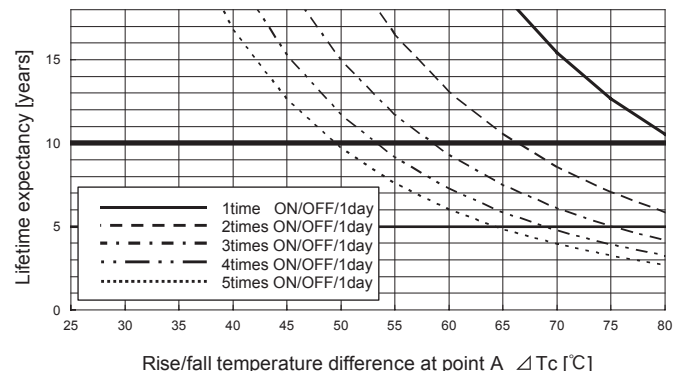

Fig.13.1 Lifetime expectancy against rise/fall temperature difference
■ Product lifetime expectancy depends on case temperature difference (ΔT_c) and number of cycling in a day is shown in Fig.13.1 (It is calculated based on our accelerated process test result.)
■The warranty period is basically 10 years, however it depends on the lifetime expectancy which is shown in Fig.13.1 if it is less than 10 years.